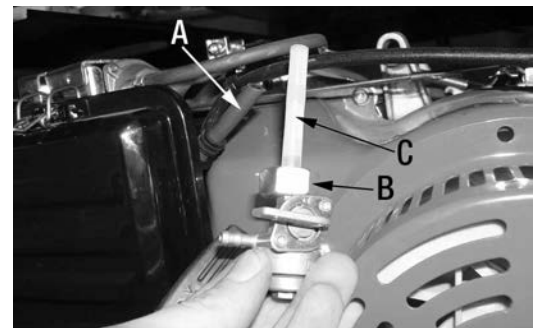

Figure 18
- 1) Once the tank and carburetor are drained of all gasoline, disconnect the fuel hose (A) Fig.18 from the fuel shut-off valve and then dismantle the fuel shut-off valve nut (B) from the tank.
- 2) Remove the fuel shut-off valve from the tank to expose the fuel filter (C). Clean the fuel filter.